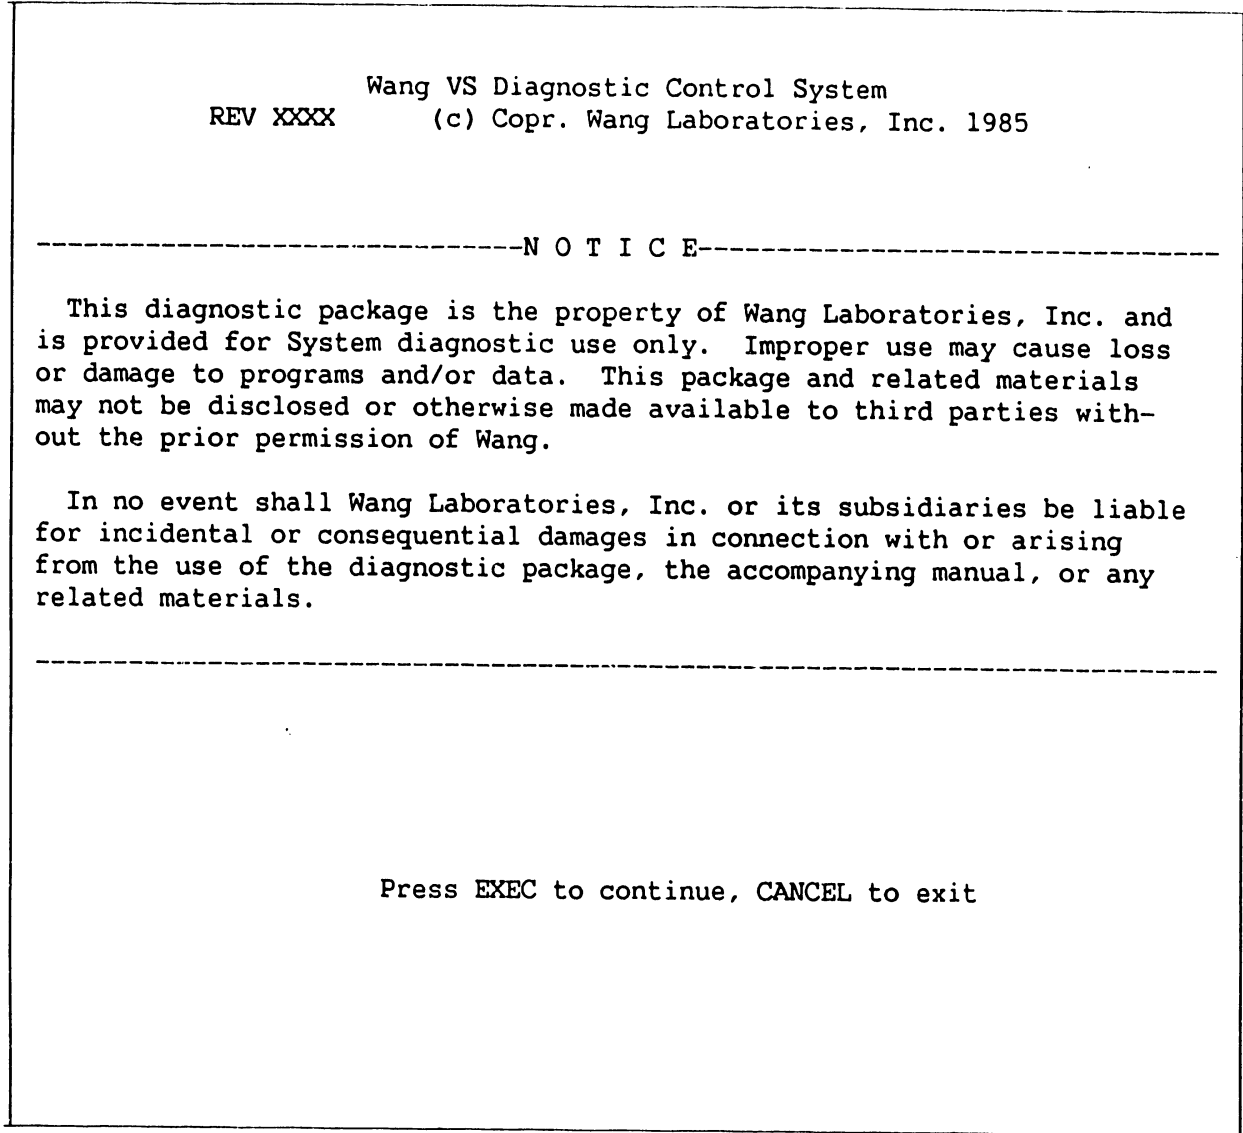

Figure 7-3. Diagnostics Disclaimer Screen
Press PF key 4 from the System Console menu and the diagnostics disclaimer screen appears. Refer to figure 7-3 below.